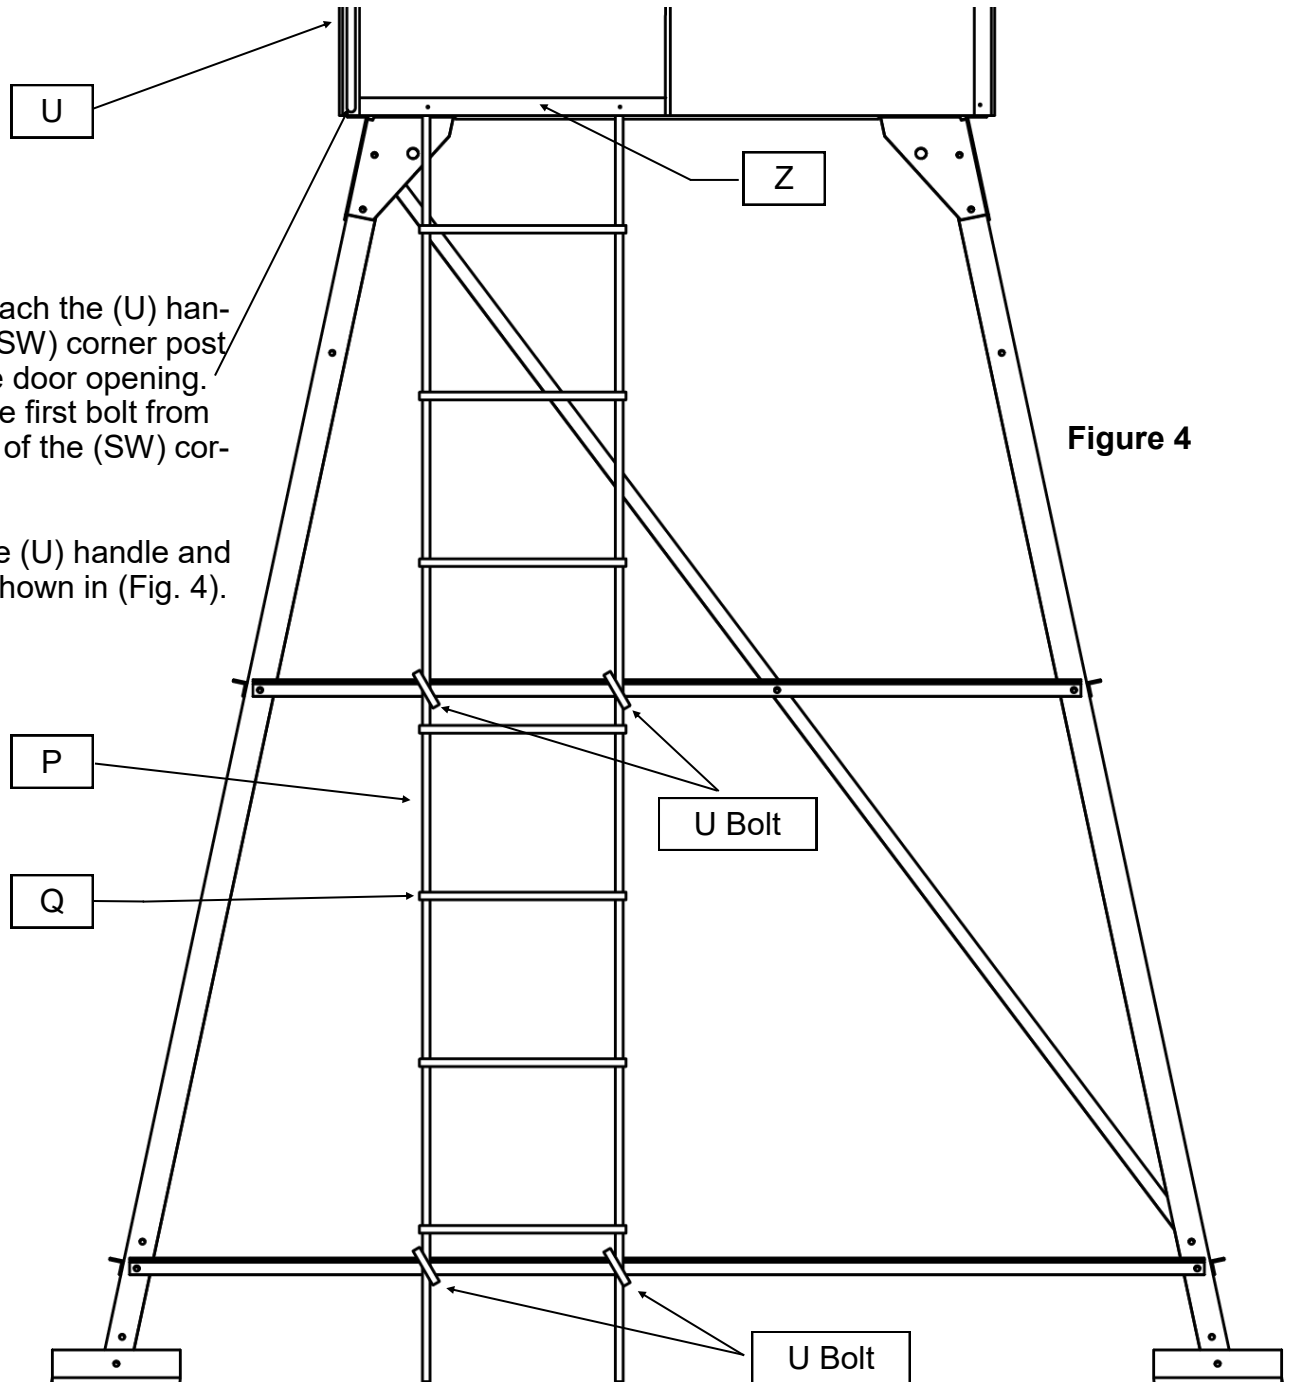

Figure 4
Step 6: Attach the (U) handle to the (SW) corner post nearest the door opening. Remove the first bolt from the bottom of the (SW) corner post.
Position the (U) handle and attach as shown in (Fig. 4).
Attach top two holes in ladder runners using existing bolts used to attach the "Z" plate, underneath the blind (opposite the "Z" and behind the angle iron supporting the floor). (Fig. 4).